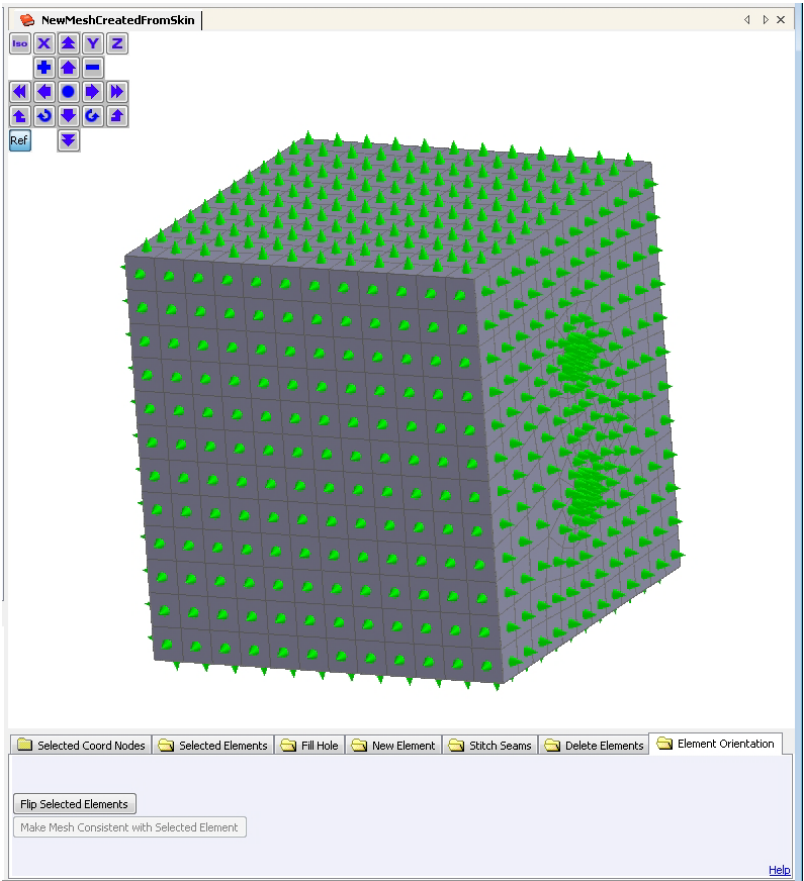

Figure A.21 Element orientations.
- From the tabbed windows located below the mesh select: **Element Orientation** to view the direction of element normals (refer to Figure A.21). The green arrow indicates the positive direction and the red arrow indicates the negative direction of the normal. Here, all the element normals are coming out of the mesh. By definition the positive side of the mesh is defined as the side with positive element normals.